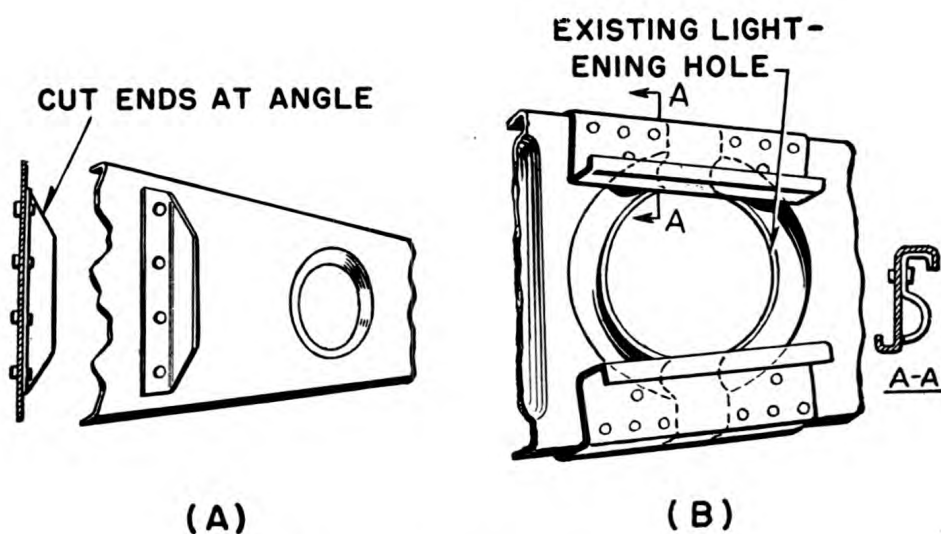

Figure 148.—Repairing wing rib webs.
In figure 148 (A), you see a typical repair of buckled rib webs and in figure 148 (B), a typical rib splice.